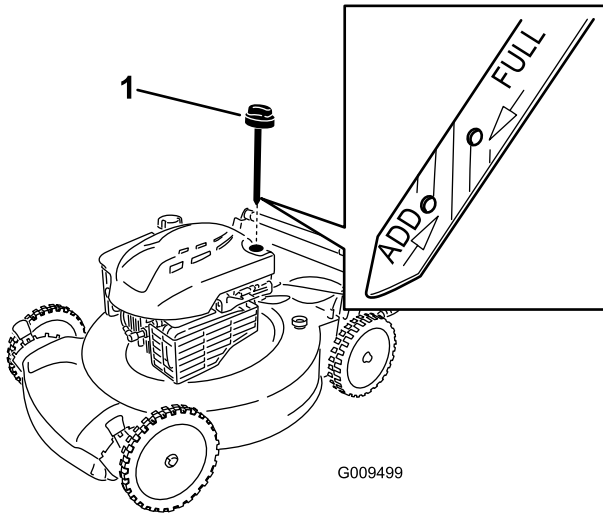

Figure 9
1. Remove the dipstick, wipe it clean, and fully install the dipstick (Figure 9).
2. Remove the dipstick and check the oil level (Figure 9). If the oil level is below the **Add** mark on the dipstick, **slowly** pour oil into the oil fill tube to raise the oil level to the **Full** mark on the dipstick. **Do not overfill.** (Max. fill: 20 oz. (0.59 l), type: SAE 30 detergent oil with an API service classification of SF, SG, SH, SJ, SL, or higher.)